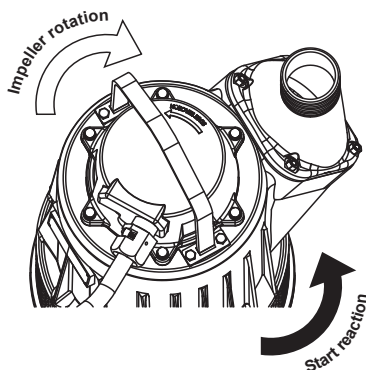

Figure 1: Direction of rotation
- Check the direction of rotation, it should make a jerk in the direction of the arrow on the pump (anti-clockwise). To change direction of rotation shift two phases. (Figure 1)
- Test the insulation between cable end / plug and earth. **Note!** DO NOT MEGGER 1000V PUMPS WITH GROUND CHECK DIODE (GC) CONNECTED.